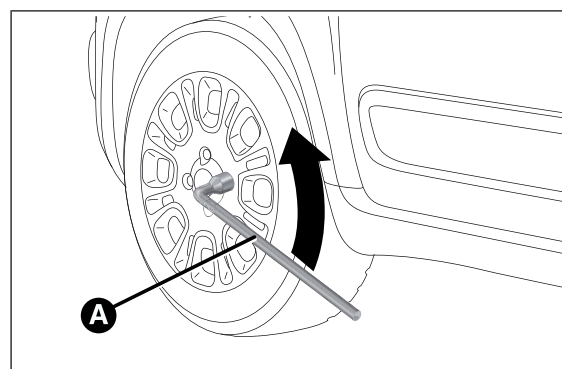

fig. 103
- ☐ take the wrench A fig. 103 and loosen the fixing bolts by about one turn. For versions with alloy rims, shake the car to facilitate detachment of the rim from the wheel hub.
- ☐ take the wrench A fig. 103 and fully tighten the fixing bolts;